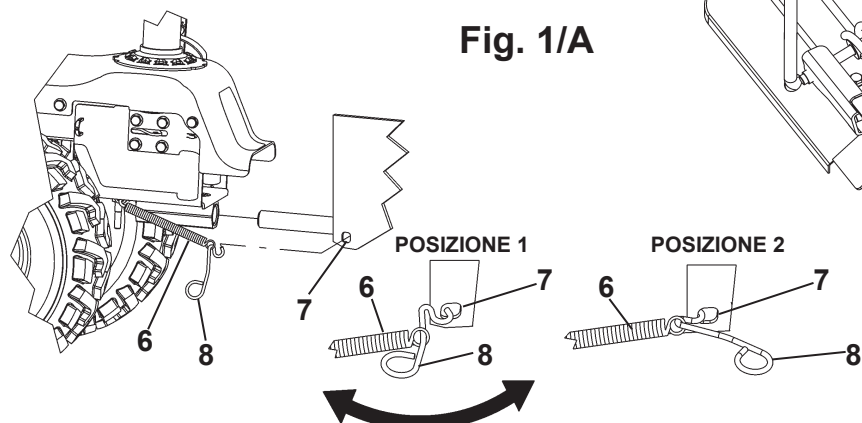

Fig. 2
HOW TO ASSEMBLE THE SIDE COVERS (Fig. 2): take the side covers out from the fittings envelope (1) with the screws (2) which have already been assembled on the covers and screw them to the brush frame (3) using the corresponding slots (A) and (B).